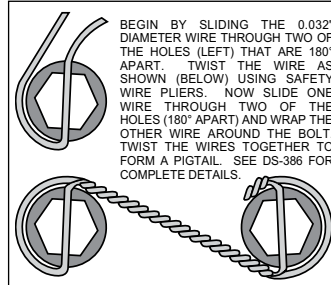

Figure 4
- Orient the rotor (3) and the hat (2) as shown in Figure 1 and Photo 3. Attach rotor to hat using bolts (5) and washers (4). Apply red *Loctite*® 271 to the bolt threads and torque to 155 **in-lb** using a criss-cross pattern. For an added measure of security, the bolts may be safety wired using standard 0.032 inch diameter stainless steel safety wire as shown in Figure 4. Please refer to Wilwood's data sheet DS-386 (available at [www.wilwood.com/Pdf/DataSheets/ds386.pdf](http://www.wilwood.com/Pdf/DataSheets/ds386.pdf)) for complete safety wire installation instructions.